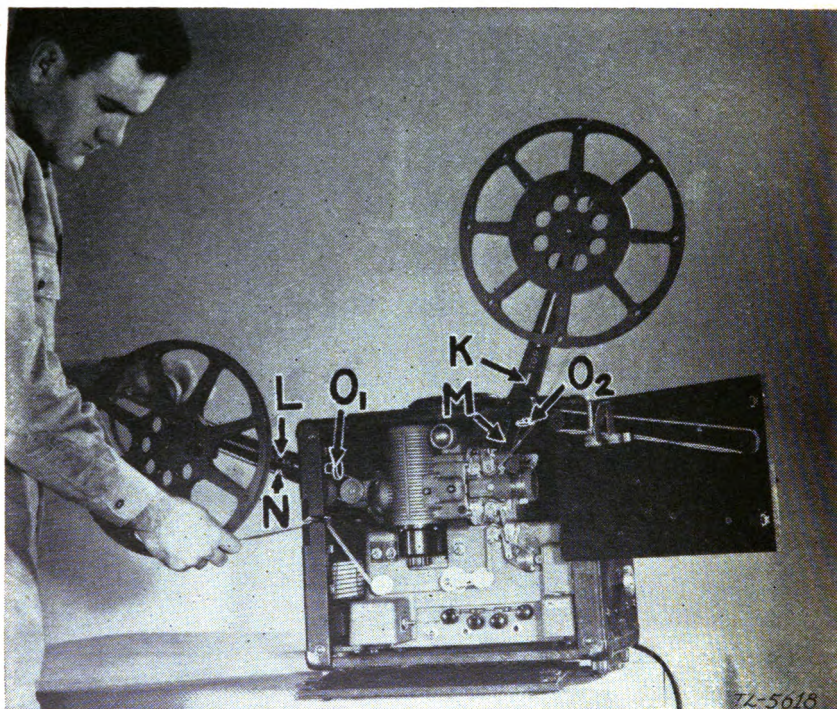

FIGURE 7.—Bell & Howell projector ready for operation.
(3) *Bell & Howell* (fig. 7).—(a) Open projector case door and remove feed arm and take-up arm.